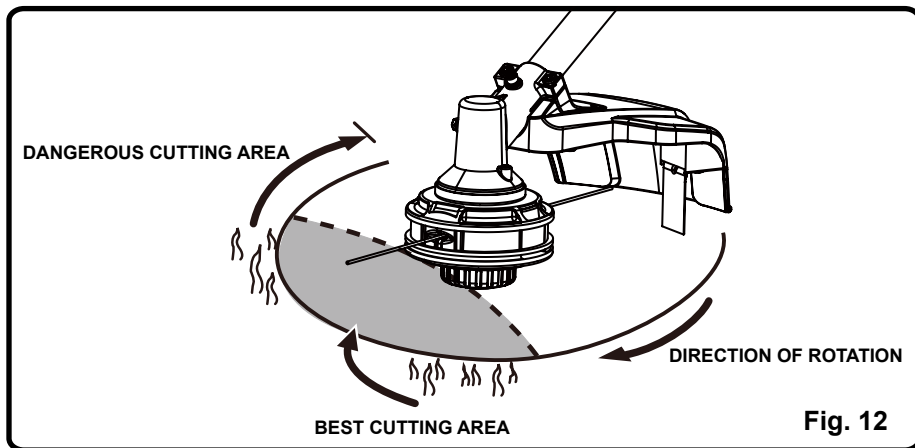

Fig. 12
CUTTING TIPS (See *Figure 12.*)
- The trimmer cuts when passing the unit from right to left. This will avoid throwing debris at the operator. Avoid cutting in the dangerous area shown in figure 12.